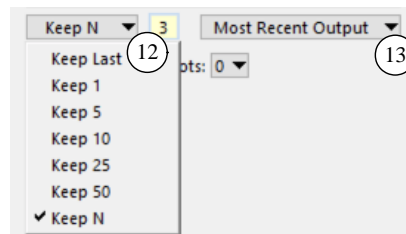

Figure 11. Options for keeping old runs.
- (11) Link to an **Animator: Camera Setup** dataset. The linked dataset sets the camera point of view used for the animation. If this link is not used, the **Video** (8) and **Video + Plot** (9) buttons will remain dimmed.
- (12) Drop-down control to specify how many runs to keep. The normal setup when running on Windows without connecting to external tools is that when a new simulation is run, all files generated by the run overwrite any files that might already exist. In this case, only the last run is kept. This option is selected by the first item on the list: **Keep Last** (Figure 11).
is made. To specify a custom limit, choose **Keep N** and enter a number in the field to the right. E.g., the three most recent runs are saved for the setup shown in Figure 11.